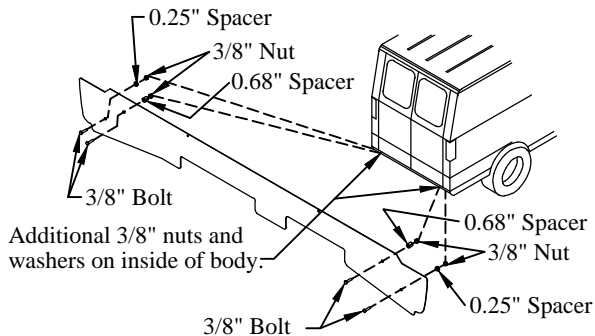

Figure 10: Rear cover hardware location.
11. **Install** four (4) 3/8" bolts with spacers and hex nuts on the rear cover. The two (2) 0.25" spacers go on the lower two holes (Figure 10).
12. **Install** the rear cover on the rear of the van (Figure 10). Use the supplied four (4) 3/8" flat washers, lock washers, and nuts.